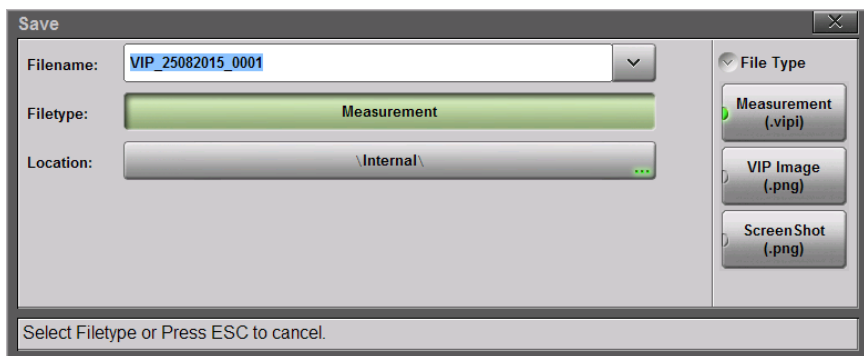

Figure 12-7. VIP File Type
10. To select the type of file to save, press the Filetype button, then press the desired submenu key. See Figure 12-7.
<div><div>✓ File</div><div><div>Save</div><div>...</div></div><div><div>Recall</div><div>...</div></div><div><div>File Mgmt</div><div>...</div></div></div>	<p>Save: Press this key to open the Save dialog (Figure 8-1 on page 8-2). This function is the same as pressing the keypad menu key Save (7).</p> <p>You can choose to save the VIP image and analysis results, the VIP image alone, or the current display screen. See Figure 12-7 on page 12-8.</p> <p>Recall: Press this submenu key to open a previously saved VIP measurement file (.vipi extension) or VIP image (.png extension). Refer to “Recall a VIP Measurement (VIP Mode Only)” on page 8-12. Note that a captured screen shot of the display cannot be recalled and analyzed.</p> <p>File Mgmt: Press this submenu key to display the “File Mgmt Menu” on page 8-27. This menu contains basic file management functions including renaming files or folders, creating folders, copying, pasting, and deleting files or folders. Many of the file management functions are duplicated in the Save and Recall menus for user convenience.</p>